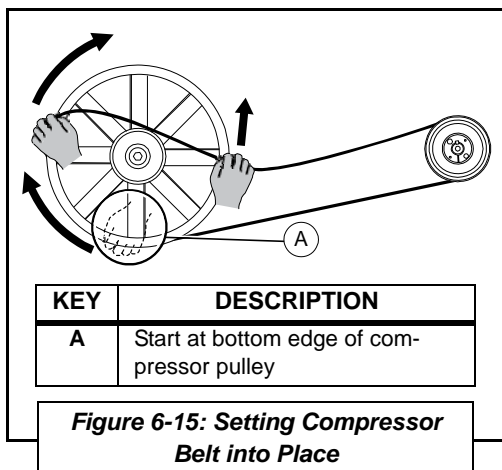

Figure 6-15: Setting Compressor Belt into Place
Refer to **Figures 6-15** and **6-16**, and the following procedure to mount the compressor link drive belts onto the compressor and engine pulleys.
3. Start at the bottom edge of the pulley as per **Figure 6-15**. Continue to set the belt into the proper groove on the compressor pulley (inside belt to inside track; outside belt to outside track as in **Figure 6-16**).
4. After the belt is seated into the compressor pulley groove, hold the belt and the pulley with the left hand (**Figure 6-15**), while rotating the pulley in the direction shown. At the same time, feed the belt upward with the right hand as the pulley is turned.